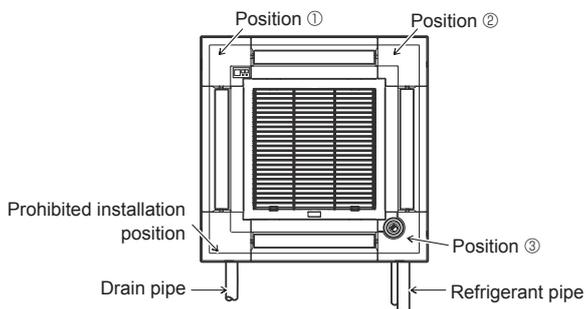

Fig. 9-11
The signal receiver corner panel can not be installed on the drain pipe side for the main unit. (Refer to Fig. 9-11)
- The i-see Sensor corner panel should be fixed onto the grille (①) with screw (③).
- * If the position of the i-see Sensor was changed from default position (position ③) to the other position, change the function settings. (Refer to page 12 and Fig. 9-11)
- The i-see Sensor corner panel can not be installed on the drain pipe side for the main unit. (Refer to Fig. 9-11)